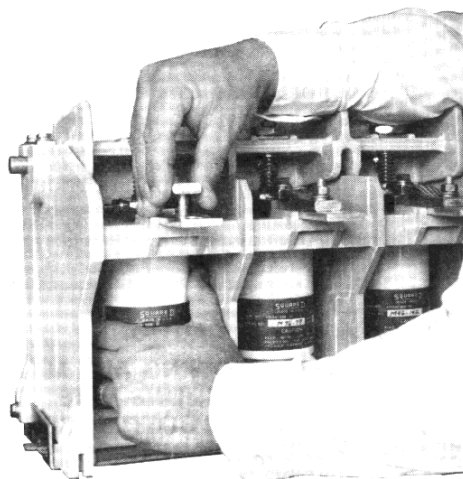

FIGURE 11
- 3) Gently rotate COMPLETE ASSEMBLY until the flexible shunt lines up with the contactor line bus (See Figure 11). DO NOT ROTATE SHAFT OF BOTTLE ASSEMBLY.